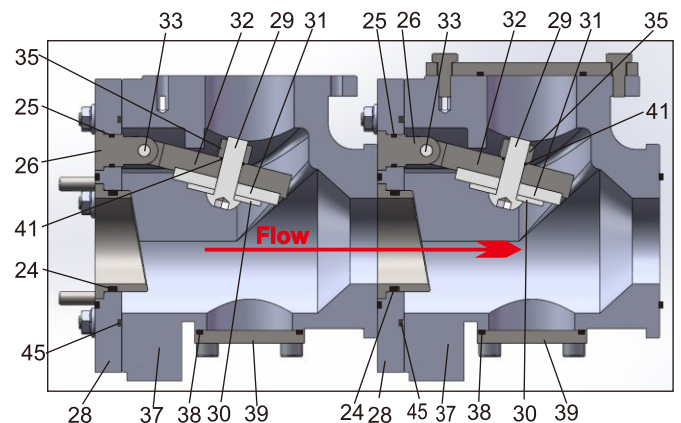
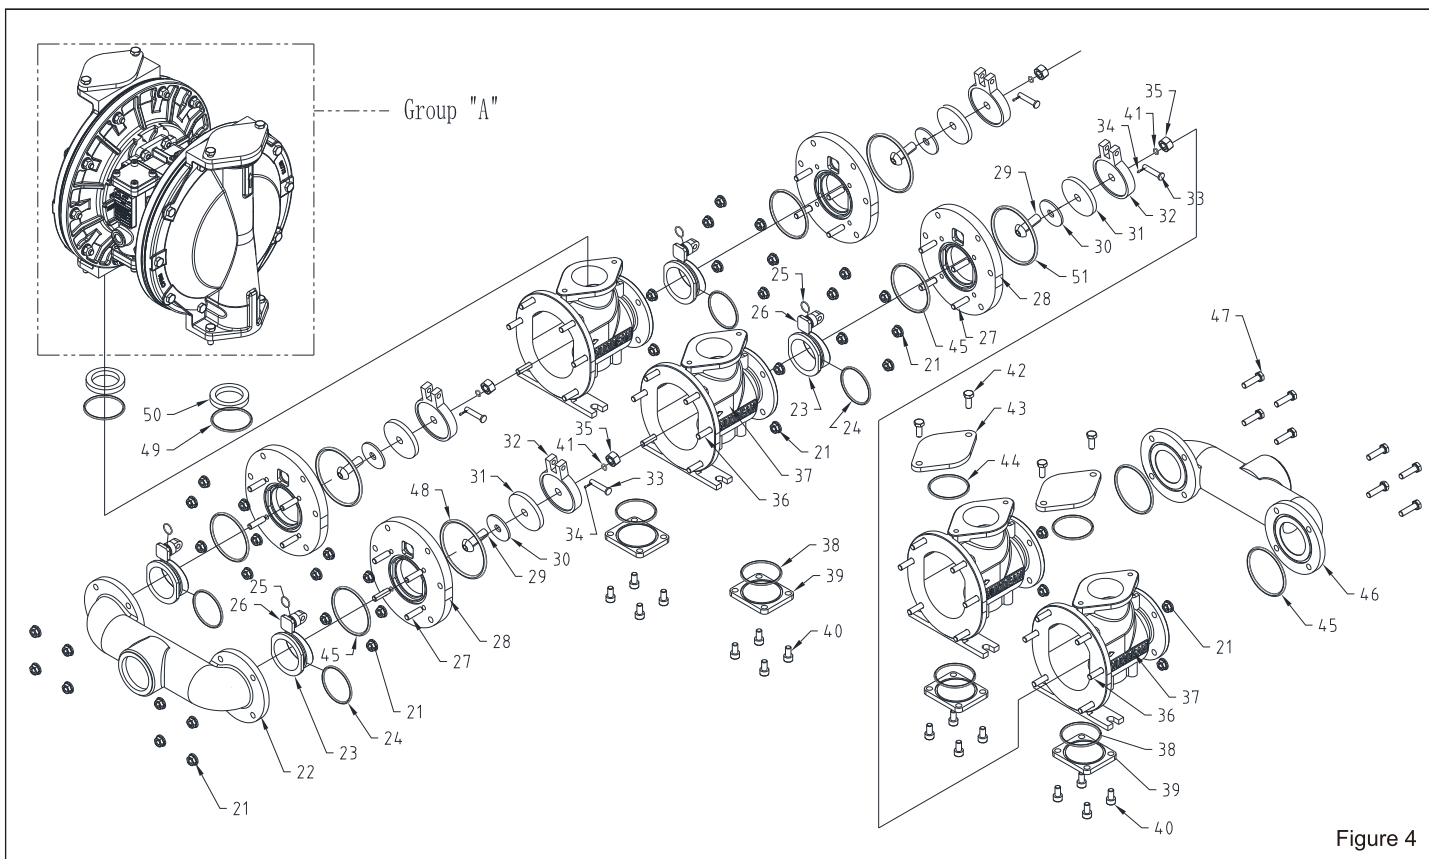

Figure 3
Figure 4
3. According Figure 3 & Figure 4 , Disassembly the parts one by one.